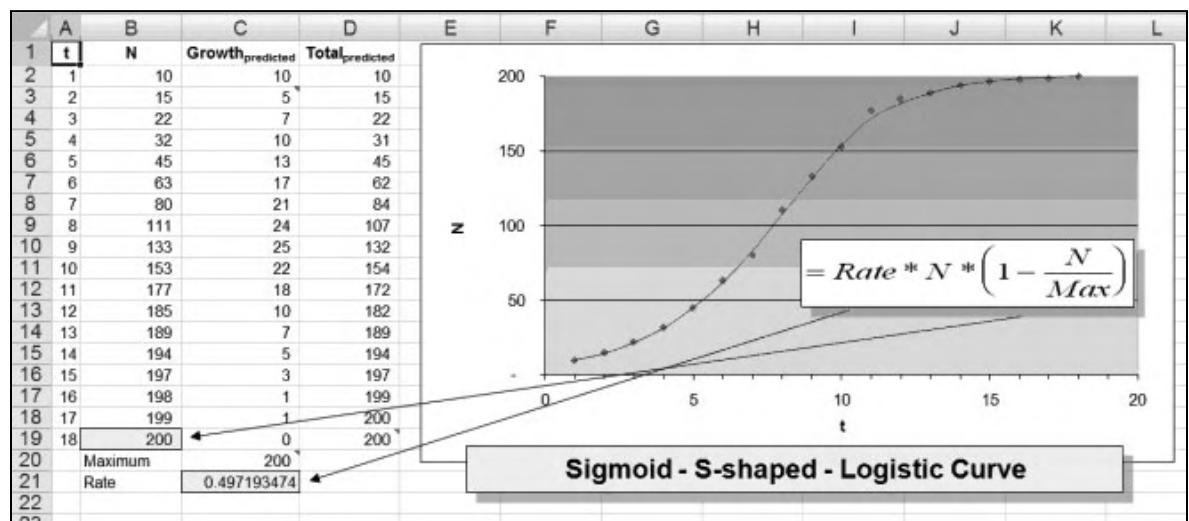

Figure: 4.23
Figure 4.23 offers a typical example of a sigmoid curve: It has an inflection point ($N+100$) and a saturation point ($N+200$). The formula shows that the rate of increase depends on the relationship between the value reached (N) and the value of the saturation point (Max). Closer to Max, n/Max comes closer to 1, so $(1 - n/\text{Max})$ comes closer to 0 and thus reduces the rate more and more. This is why column C in Figure 4.23 initially goes up and then